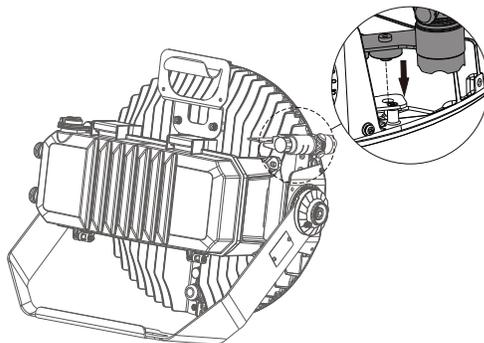

Fig. 9
2. Locate the laser mounting holes on the fixture as seen in Fig. 9. Use the magnets on the laser mounting bracket to mount.